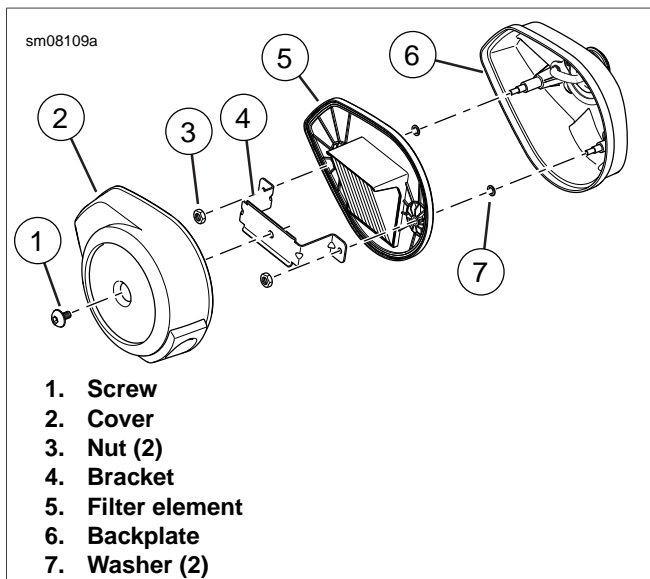

Figure 35. Air Cleaner
1. See Figure 35. Remove screw (1).
2. Remove cover (2).
3. Remove nuts (3).
4. Remove bracket (4).
5. Remove filter element (5).
8. Install filter element (5).
9. Install bracket (4).
10. Install nuts (3). Tighten to 6.0-8.0 Nm (54-70 **in-lbs**).
11. Install cover (2).